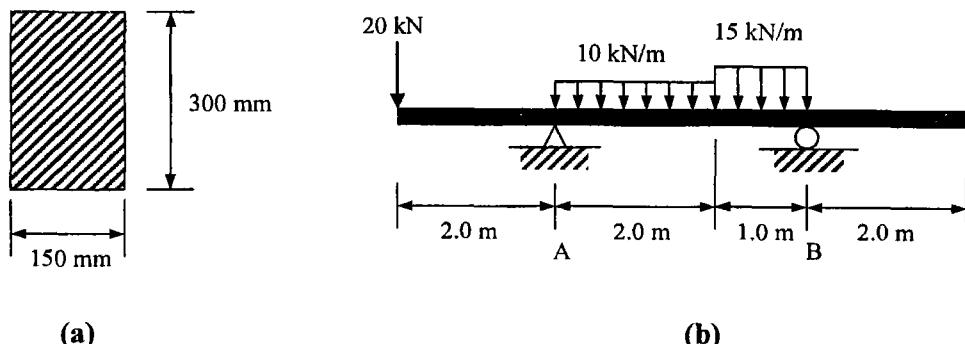

Figure 1 / Rajah 1
- (b) A rectangular beam section as shown in Figure 1(a) is subjected to a concentrated load and two uniformly distributed loads as shown in Figure 1(b). The beam is pinned at A and roller at B.
- Given the allowable bending stress and shear stress of the material used for the beam are 8.0MPa and 0.8MPa, respectively. Check if the section selected as shown in Figure 1(a) is safe to be used or not.